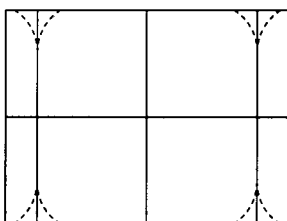

Fig. E7
- Use the arrow keys “◀” and “▶” to adjust the corners to minimum distortions (see Fig. E7).